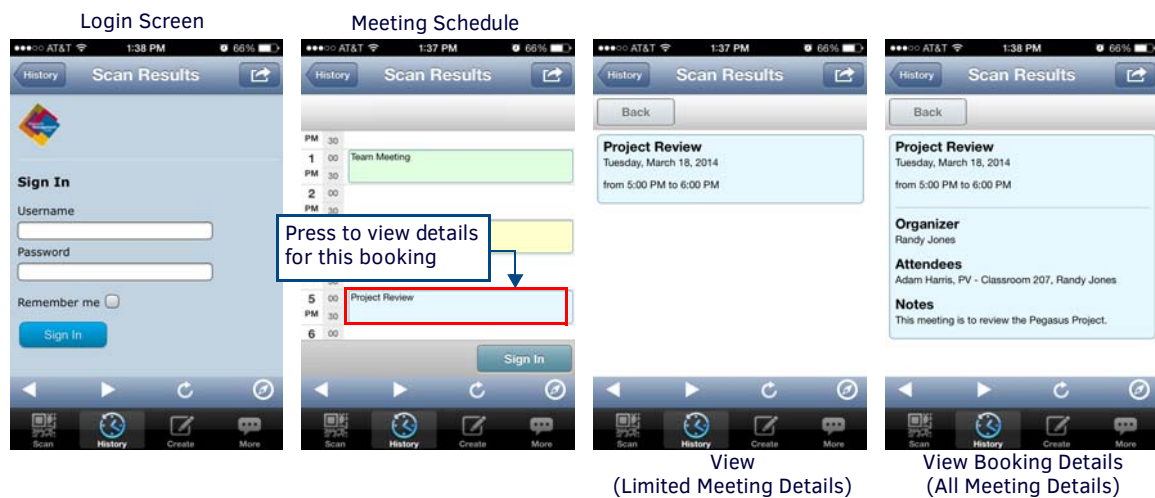

FIG. 322 Example Mobile Device Scheduling Displays
View	Allows the user to view booking schedule and limited meeting details (meeting name, date and time) at one or more specific Locations (see FIG. 322 on page 198).
View Booking Details	Allows the user to view booking schedule and all meeting details (including meeting name, date, time, organizer, attendees and description) at one or more specific Locations (see FIG. 322 on page 198).
- **View:** This permission allows the user to view booking schedule and limited meeting details (meeting name, date and time) at one or more specific Locations (see "View" in FIG. 322)
- **View Booking Details:** This permission allows the user to view booking schedule and all meeting details (including meeting name, date, time, organizer, attendees and description) at one or more specific Locations (see "View Booking Details" in FIG. 322).
Note that the Mobile Device Scheduling Login Screen features a **Remember me** option (see the Scheduling Login Screen in FIG. 322). This option is de-selected by default.